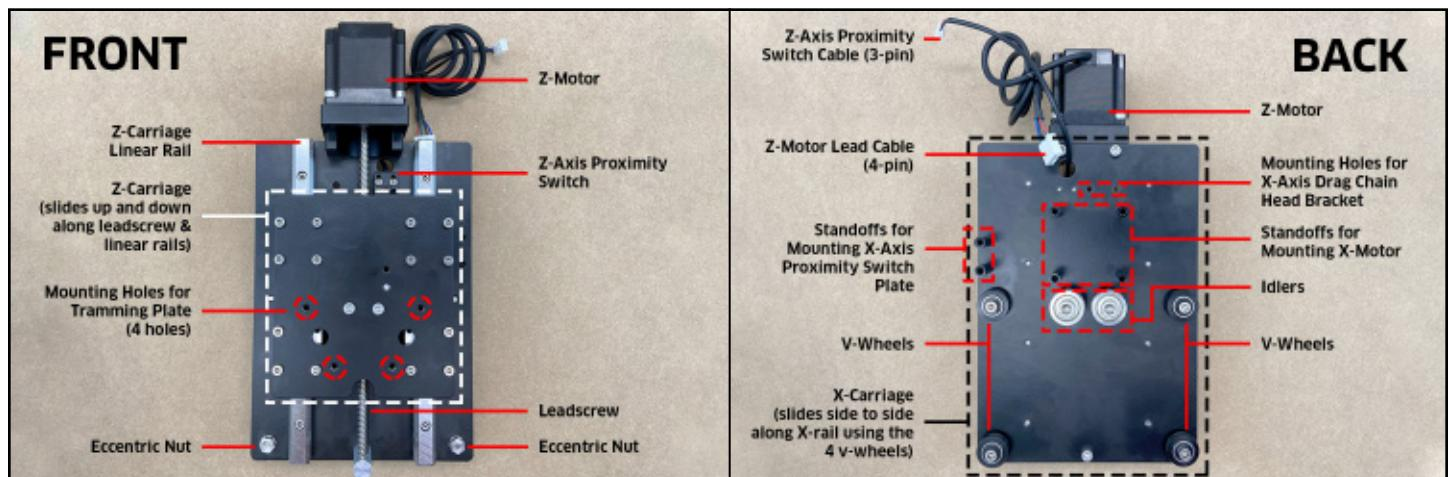
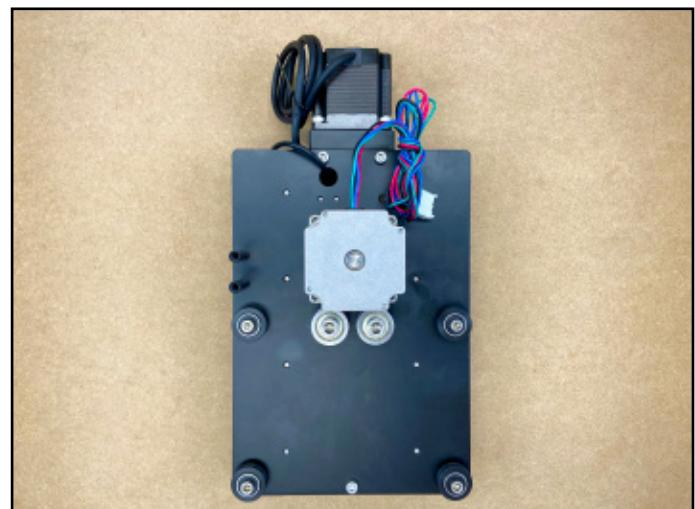

Figure 3-7
Figure 3-8
1. Familiarize yourself with the features and layout of the Z-Plus. See *Figure 3-7*.
2. Place the Z-Plus face down, with the six (6) 30mm standoffs pointing up.
3. Set the X-motor onto the four (4) evenly-spaced standoffs in the center of the Z-Plus, with the X-motor lead cables extending up toward the Z-motor. See *Figure 3-8*.
4. Use the 4mm hex key and four (4) M5x10mm socket head cap screws to secure the X-motor to the Z-Plus.